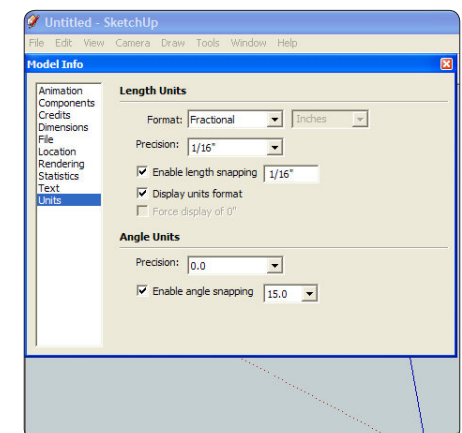

Figure 4. The dialog box for setting units of length.
Figure 4. This rough model of a Maloof-style rocker illustrates SketchUp's limitations. The program is fine for showing joinery and construction details, but not for the artful sculpting that's the hallmark of the Maloof style.
2. Click on Model Info in the dialog box to open a new dialog box, as shown in Figure 4.